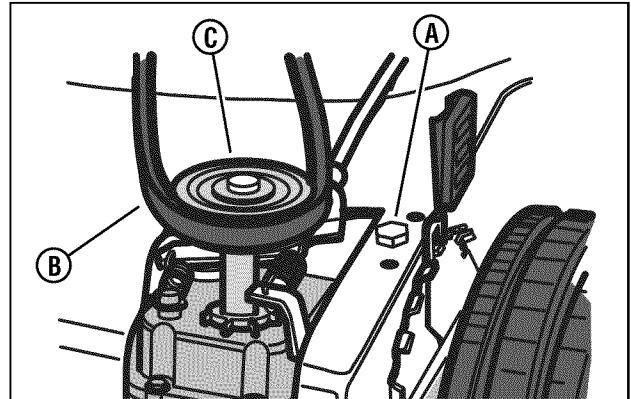

Figure 18: Loosening the belt tension bolt
3. (SP2265FC Only): Loosen the belt tension bolt (A, Figure 18).